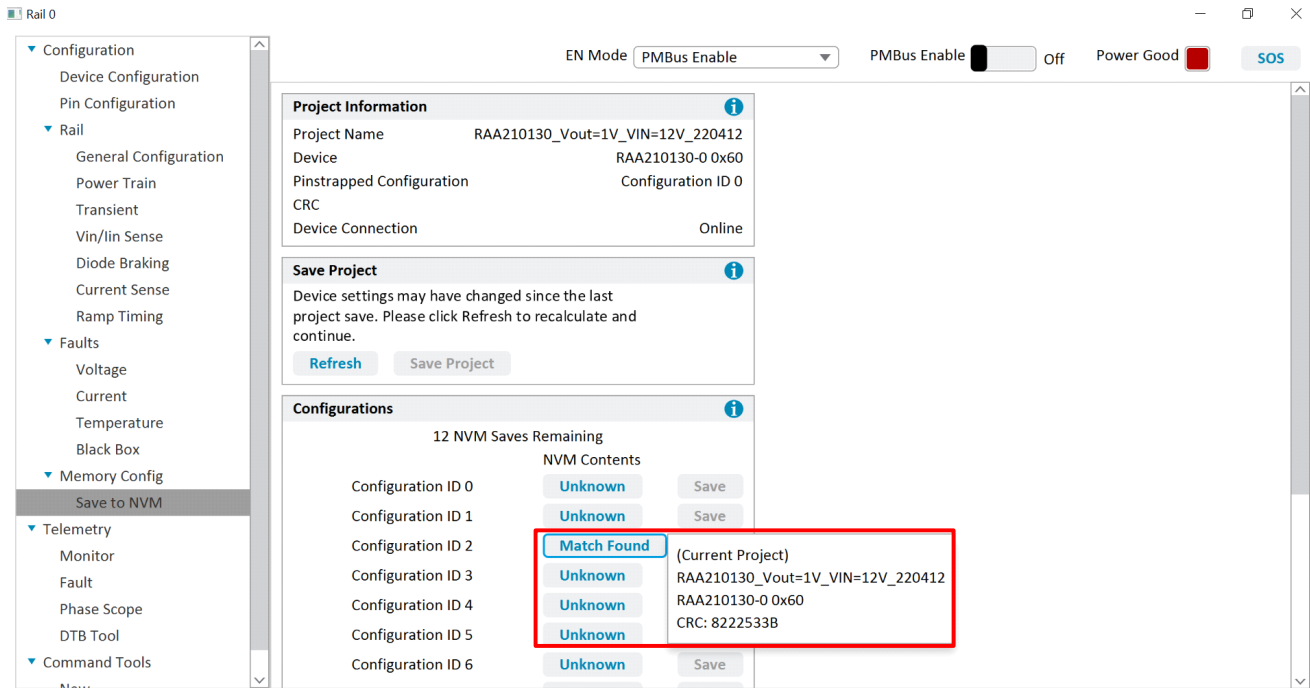

Figure 10. Verifying CRC Number Written to Selected Configuration ID
15. Open Power Navigator. Go to **Memory Config** -> **Save to NVM**. Check that the CRC number is written correctly to the selected configuration ID as shown in **Figure 10**.